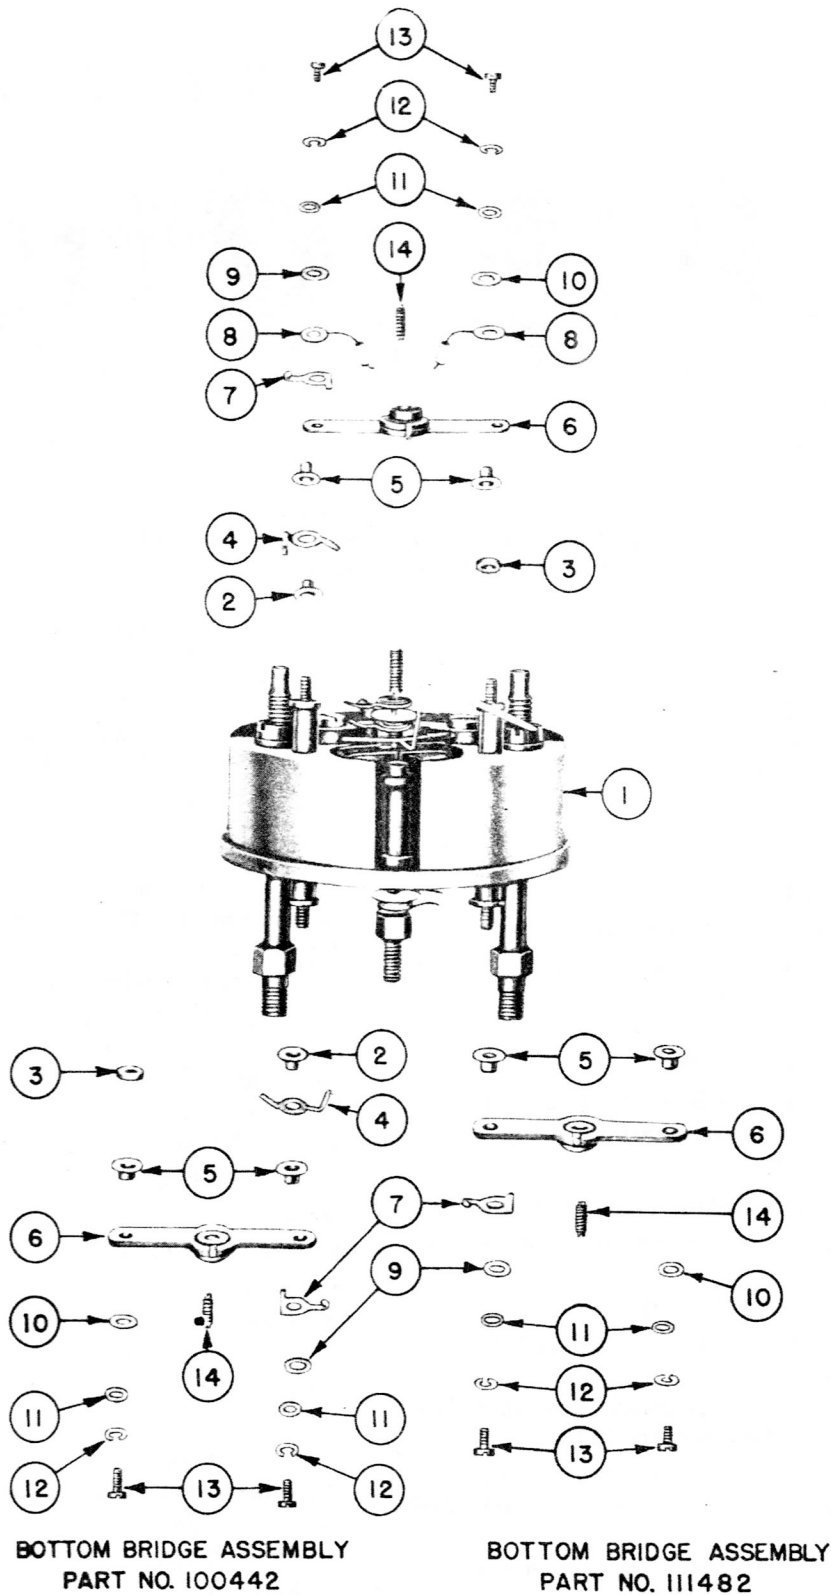

Figure 232—Top and Bottom Bridge Removal
**(6) TOP BRIDGE REMOVAL.** (See figure 232.)
(c) Remove the inner bridge mounting parts in the order listed below. Note that these parts are on opposite bridge supports from figure 232.